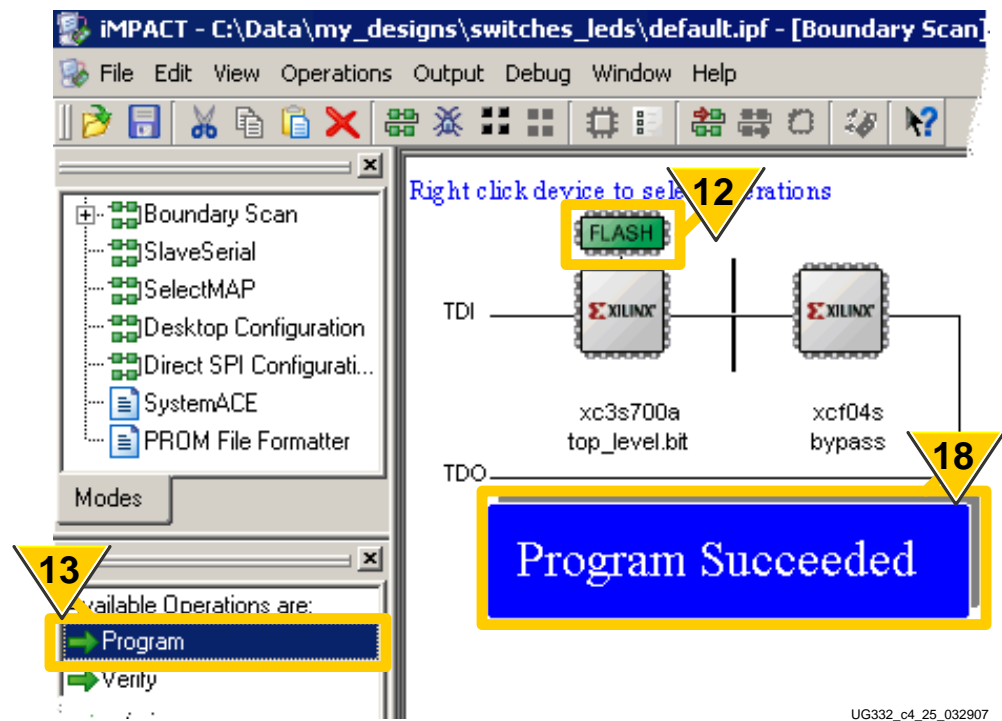

Figure 12-17: iMPACT Presents JTAG Chain, Shows Attached Flash PROM
12. As shown in Figure 12-17, the iMPACT software then displays the JTAG chain for the XC3S700A Spartan-3A FPGA followed by the XCF04S Platform Flash PROM. A similar display will be seen for the XC3S700AN Spartan-3AN FPGA. Click to highlight the **FLASH** memory attached to the XC3S700A FPGA. This action enables the command options shown in Step 13.